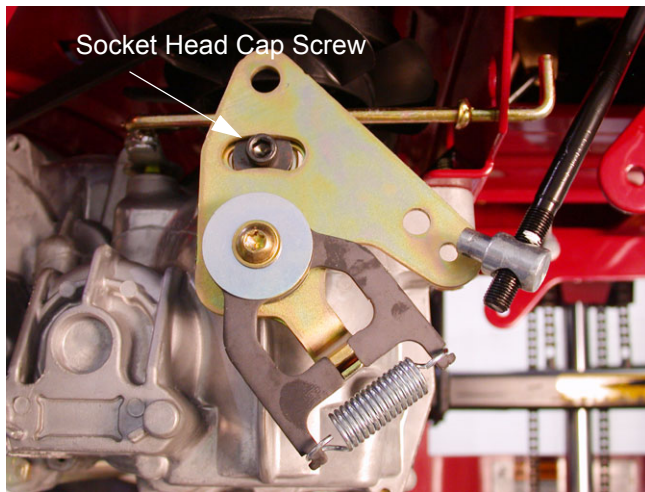

Figure 10.5
- 10.5. To adjust the neutral return assembly, loosen the socket head cap screw that holds the centering bracket in position on the housing using a 1/4" allen wrench. See Figure 10.5.